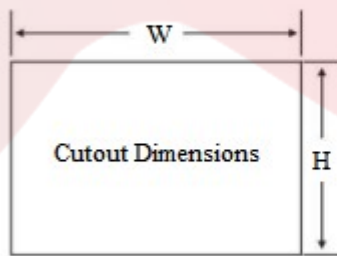

Figure 1
1. On the panel surface, cut a rectangular mounting groove and drill the embedding holes according to the specified dimensions, then install the HMI unit from the front side. (Figure 1)